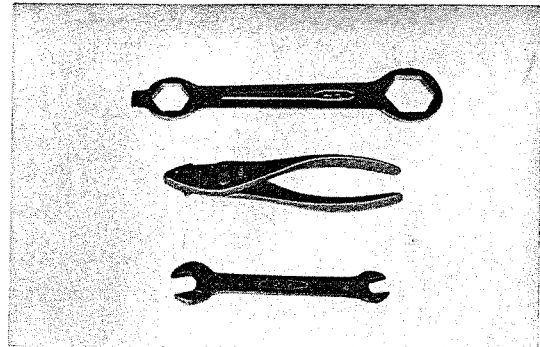

Fig. 6.29 Tools required for drive chain adjustment
- a. Tools required for drive chain adjustment. (Refer to Fig. 6.29)